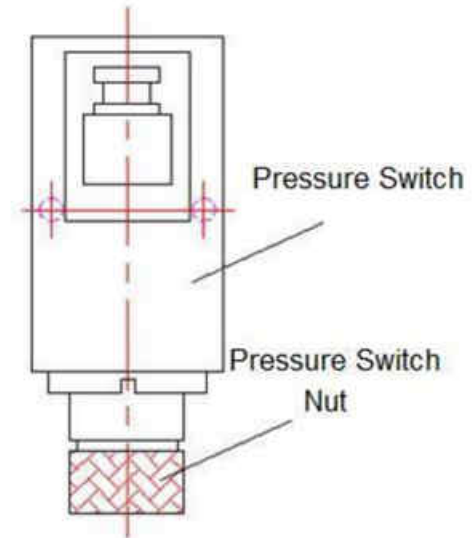

Figure8、 Pressure Switch Adjust
9. Regular examination for Pressure Switch and make sure the set pressure be 14Mpa. When system pressure is different with set pressure, please adjust the Pressure Switch, Adjust method (Figure 8)